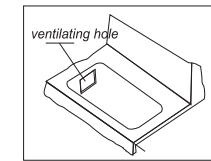

Fig.5
- Cabinet must have one ventilating hole of over 100 cm to guarantee that air flows into ventilating hole of the bottom of gas cooker. (Fig.5)